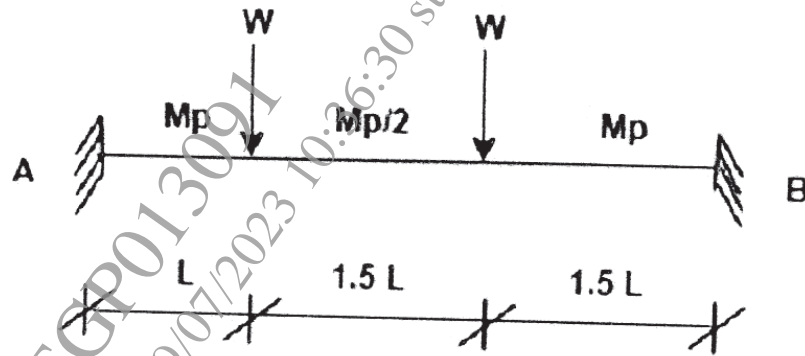

Figure 9
- Q7) a) Determine collapse load for the beam shown in figure 9 with variable moment or resistance. [12]